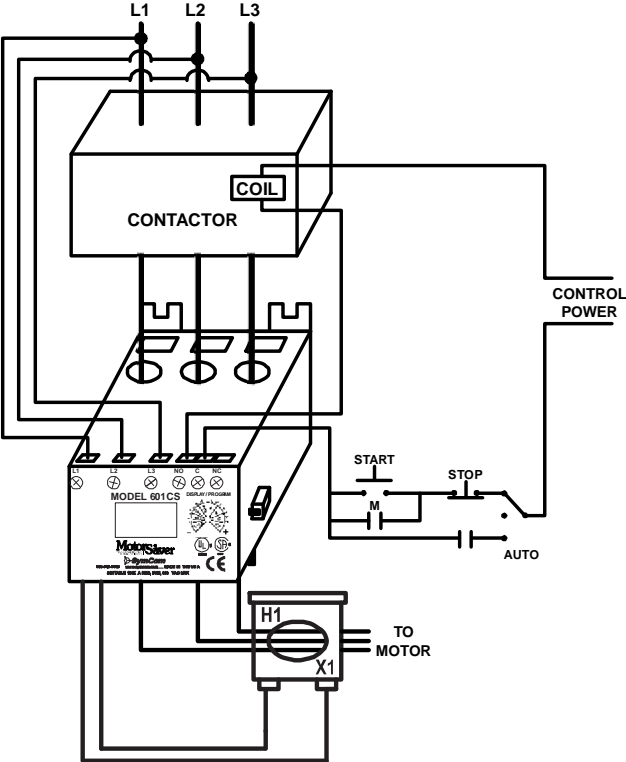

Figure 1: Typical Wiring Diagram for FLA of 1-175A
3. A) For amperages from 1-175 amps, insert the motor conductors through the holes marked A, B, and C. Make certain the conductor through each hole corresponds to the right motor conductor, i.e. the A phase conductor should go through the A round hole. See Figure 1 for a typical wiring diagram.